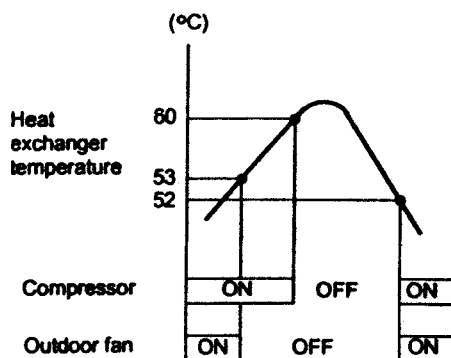

Fig. 8-29
(2) High-temperature limit control
Control is performed as shown in Fig. 8-29 by detecting the heat exchanger temperature with a heat exchanger sensor (TC).